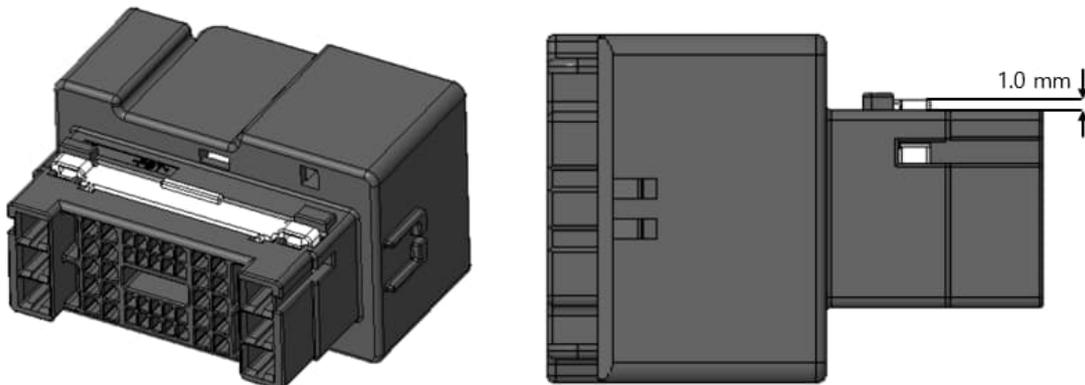
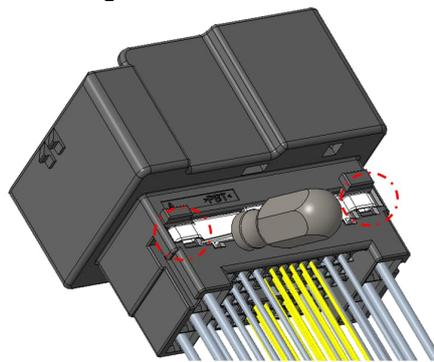

Fig. 4
Fig. 7
- (1) Check TPA is in pre-lock condition as shown in Fig.4. The contact cannot be inserted in case of the final lock condition so do it again after rework.
In case of Male Contact insertion or extraction, TPA is extracted to Pre-Lock condition (see Fig.4). Release both side of TPA, then lift it to outside direction. Refer to TPA release operation in Fig.7.